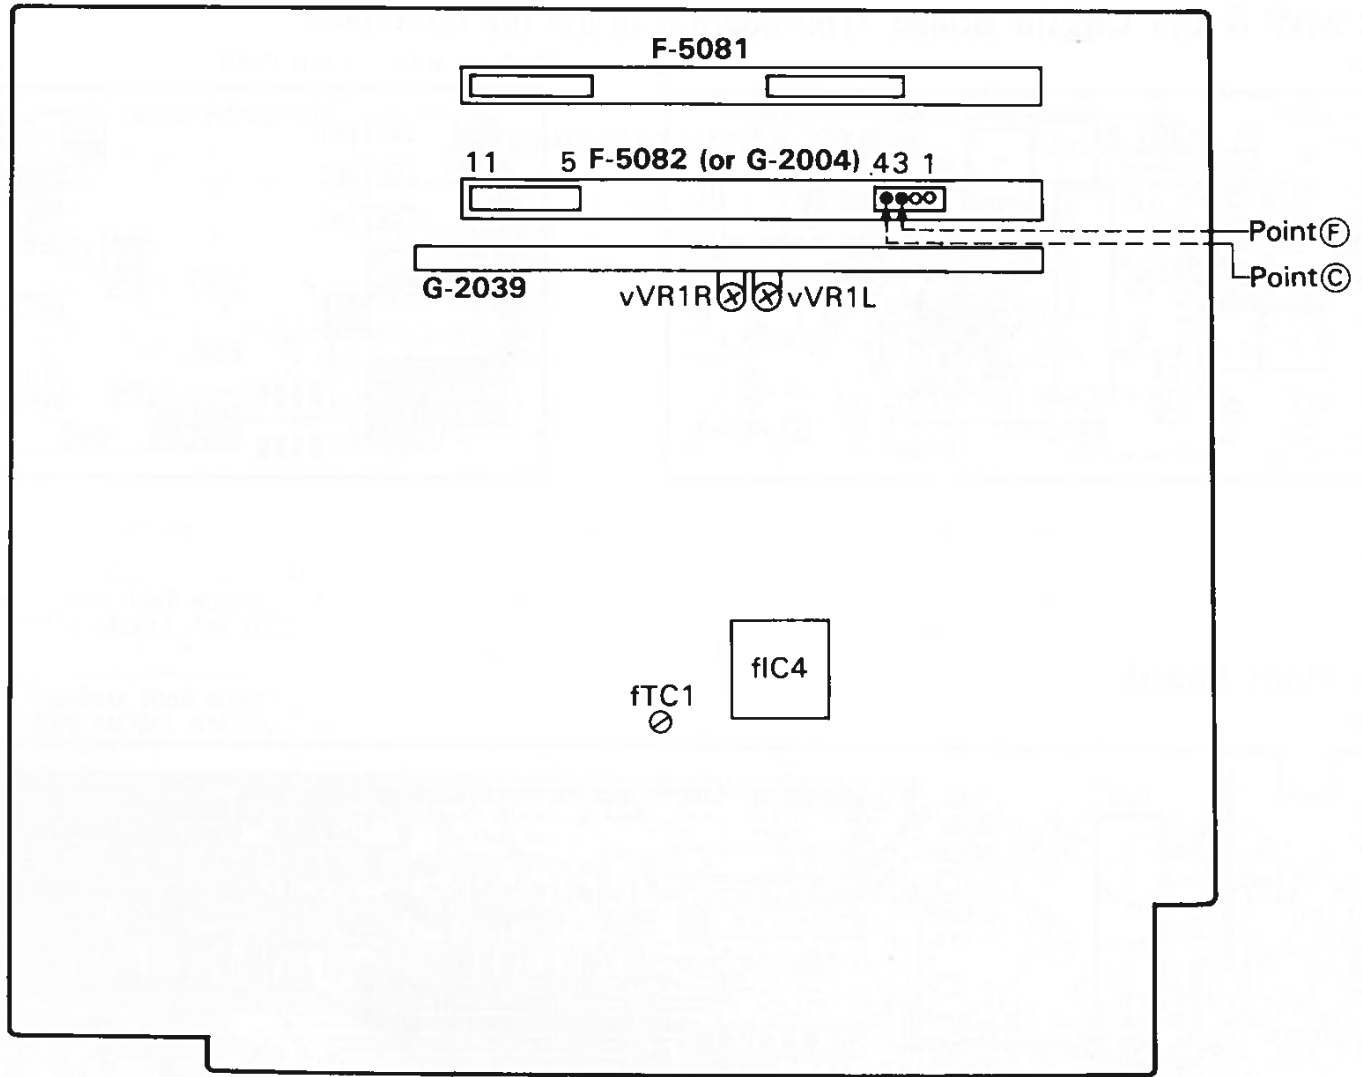

Fig. 5-9 F-5082 AM Board for GT-X7000/X7000F
1) AM Tuning & Reference Frequency Adjustment For GT-X7000/X7000F (See Fig. 5-9 on page 20.)